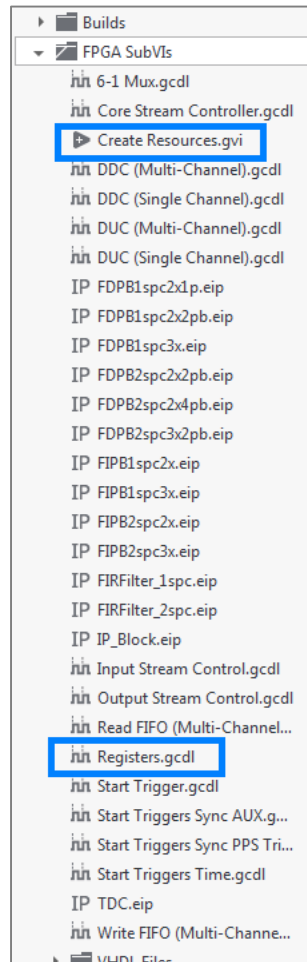

Figure 54: Files to Copy
- a. As shown in Figure 54, find the following subVIs from the *<project directory>\FPGA SubVIs* folder: